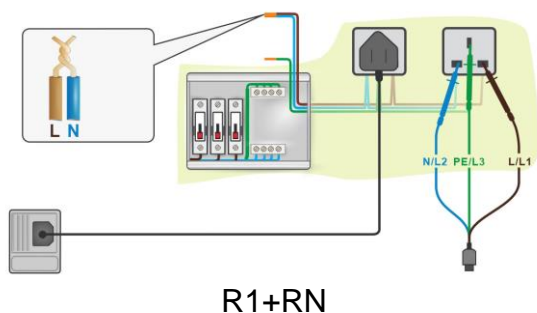

Figure 5.11: Connections for testing the R2, R1+RN and R1+R2 sections of the wiring in radial final circuits
- ❑ **Connect** the test leads to the appropriate PE wiring (see *Figure 5.10* and *Figure 5.11*:).